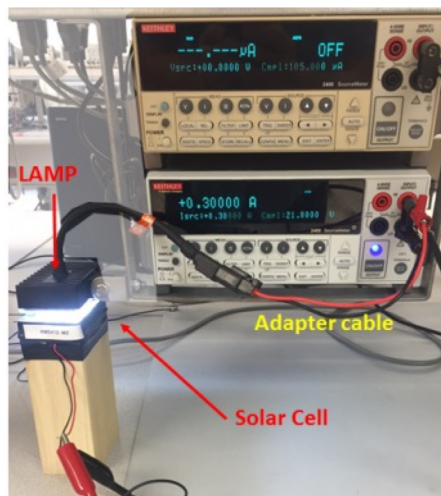

Fig. 11: Solar cell under lamp.
- (d) **Perform I-V measurement of the PV in bright light:** Obtain one of the lamp adapters from the TAs, plug it in to SMU 2 and manually set the SMU to source 300 mA of current (ensure the voltage compliance is at least 20 V) and place your solar panel beneath the lamp (see Figure 11). Initiate the measurement on SMU1 as in part 2.1c, and view the data center window. How did your I-V curve change? Save your results for later analysis.